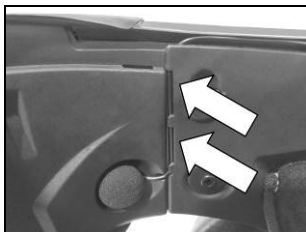

Fig. 14
- Position the microphone wire in the vertical groove (Fig. 14) and afterwards behind the cheek pad lining. If necessary, lift up the groove tabs and the cheek pad lining using a flat head tool (supplied as standard equipment).